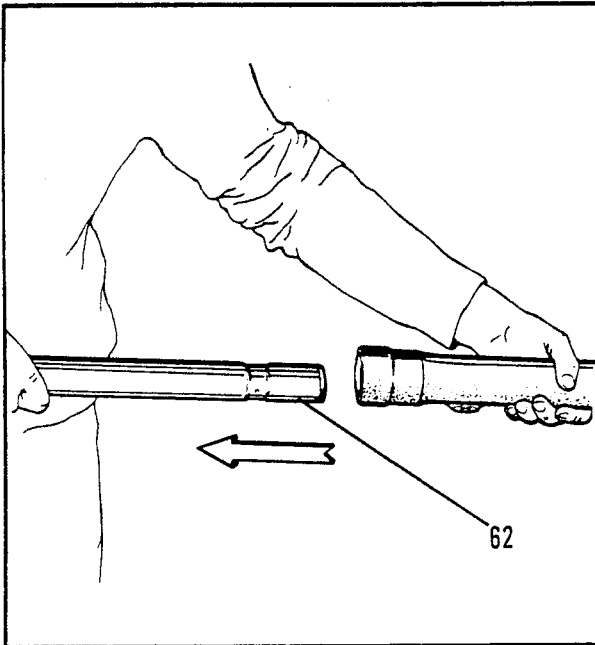

Figure 5-14. Tube Removal
- See Figure 5-14. Remove the fork tube (62) from the slider.